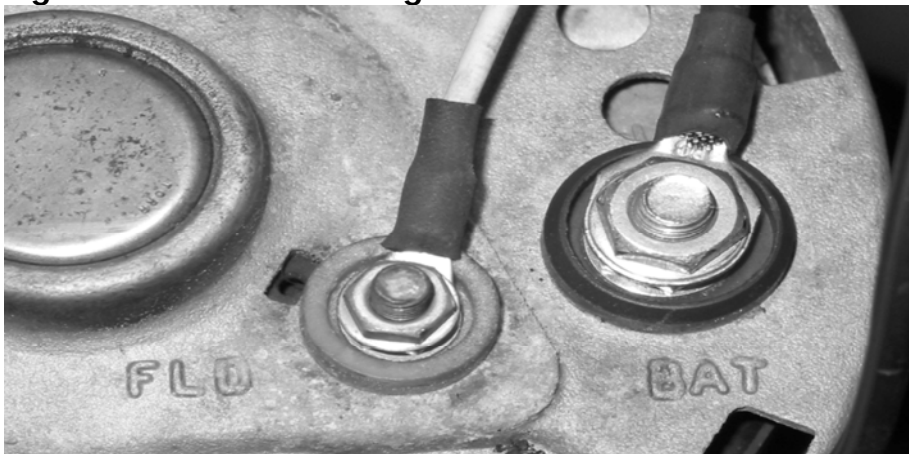

Figure 7-2 Alternator Connections
- 7.1.1 Connect HEADLIGHT SECTION wire #915 (Blk/Ylw) to the Alternator Output post marked "Bat" or "B+". See Figure 7-2
- 7.1.2 Connect HEADLIGHT SECTION wire #914 (Wht) to the Alternator post marked "FLD". See Figure 7-2